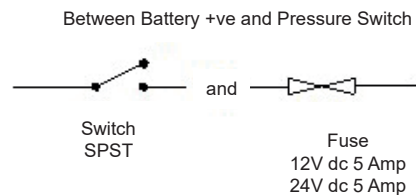

Figure 3: Installing Isolator Switch
Step 4 You must fit an isolator switch and a fuse (not provided) in the positive line (Fig. 3).